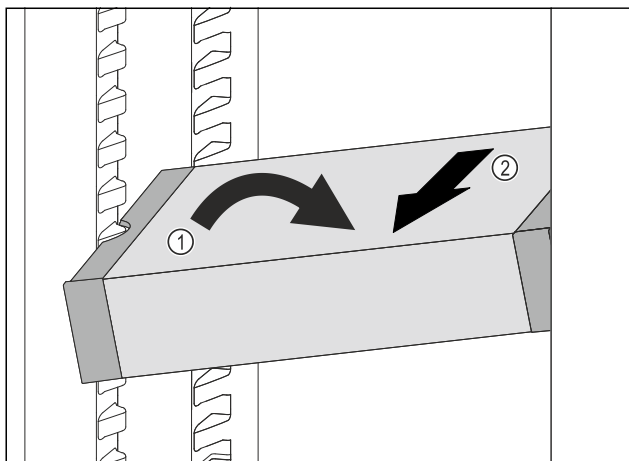

Fig. 132
- Set VarioSafe in refrigerator compartment at an angle. Fig. 132 (1)
- Take VarioSafe out to the front. Fig. 132 (2)